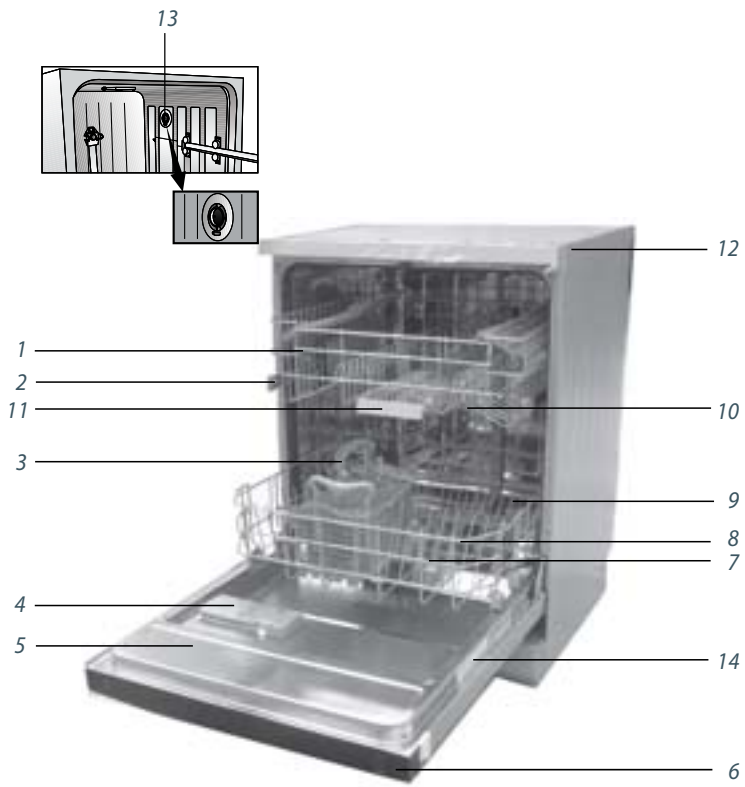

Fig. 2 Dishwasher features
- Ensure the voltage and frequency values for the current in your home correspond to those on the rating plate and that the electrical system is correct for the maximum voltage on the rating plate. For the location of the rating plate, see Fig.2, no.13.